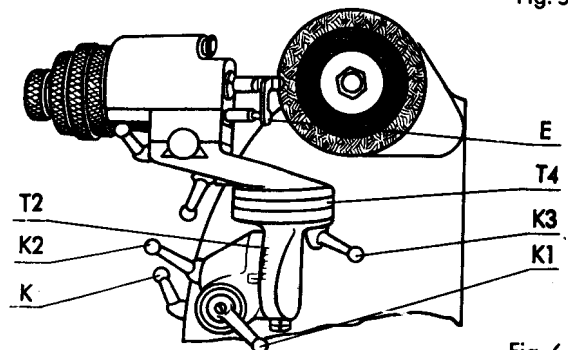

Fig. 6
3. Align cutter by means of gauge E, clamp cutter in position, return aligning gauge E (Fig. 6).